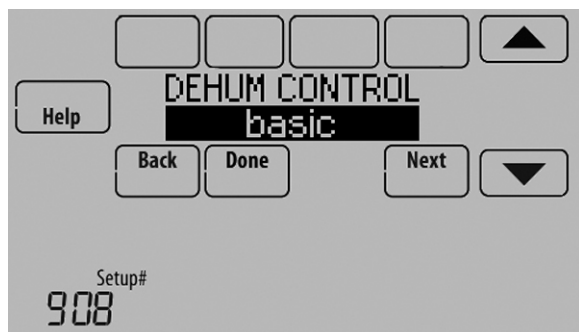

Fig. 215.
- Set the Dehumidification Control. See Fig. 215. For more information about these options, see “Dehumidification using the Cooling System” on page 87.